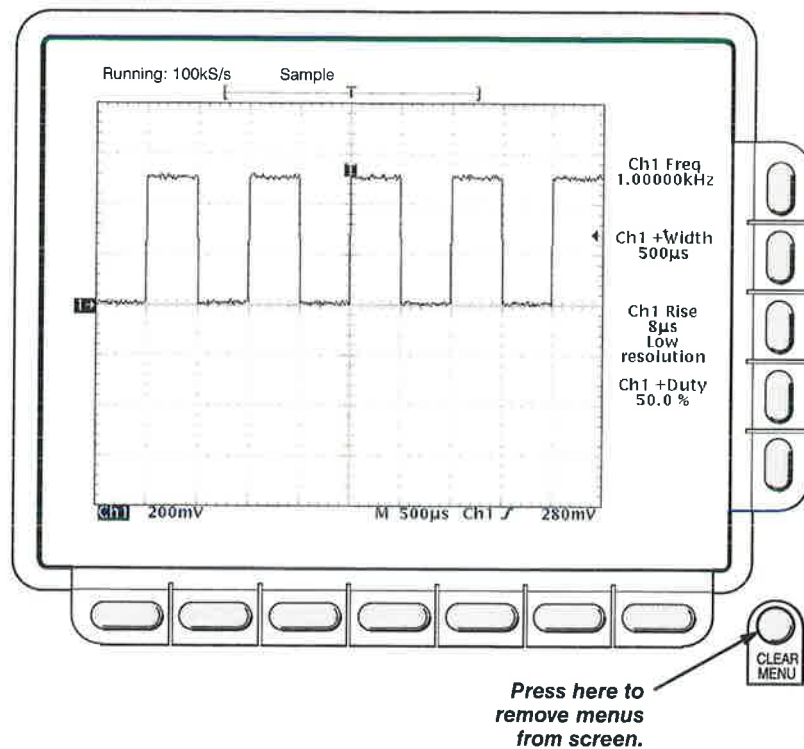

Figure 1-15: Four Simultaneous Measurement Readouts
8. To move the measurement readouts outside the graticule area, press **CLEAR MENU** (see Figure 1-15).